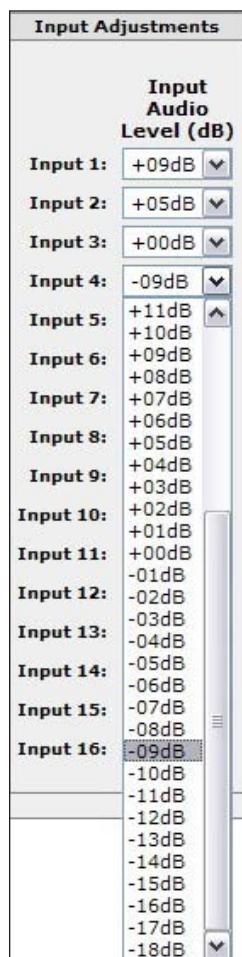

Figure 59. Drop-down List of dB Values
1. In the Input Adjustments section, click in the desired input audio level field. A drop-down list of dB values (+24 to -18 dB) appears (see figure 59, input 4).